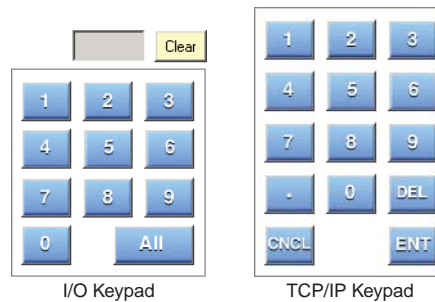

Figure 3-2 — I/O and TCP/IP on-screen keypads
An on-screen keypad (figure 3-2) is integrated into the I/O screens. A similar keypad is available from the TCP/IP screens and appears when you take a step that requires that you enter numeric characters.
- e. Touch the IP Address field. The on-screen numeric keypad appears (figure 3-2).
- h. Touch the Subnet Mask field. The on-screen numeric keypad appears (figure 3-2).